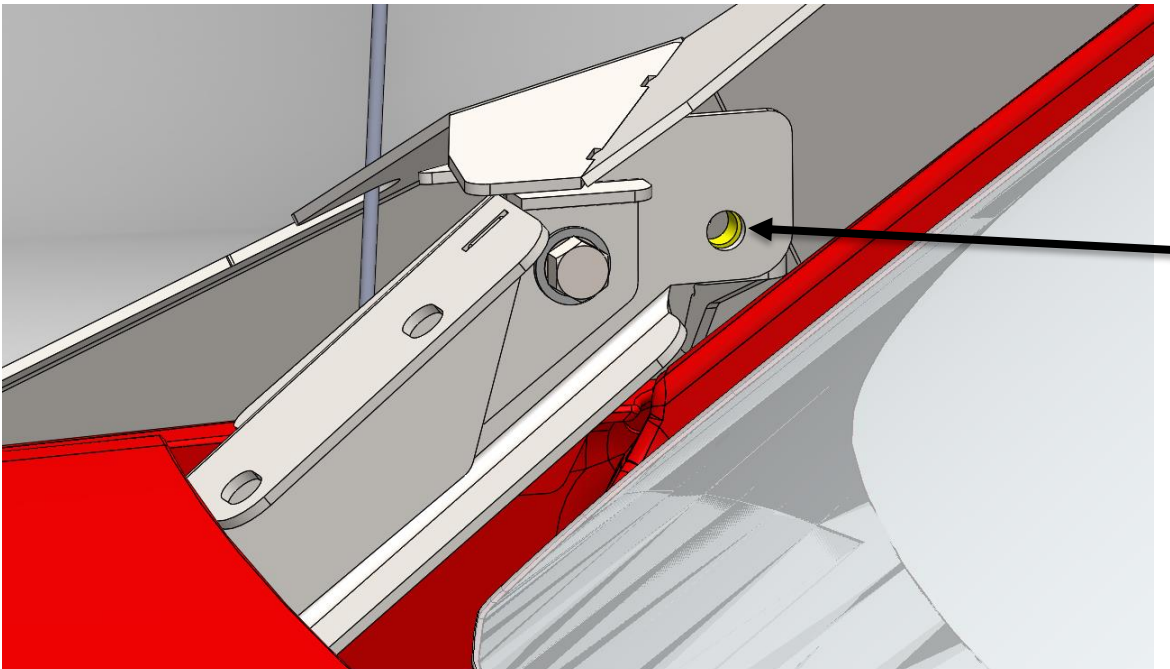

Fig 12
- a. With a friend on the other arm, lift the upper ViCowl assembly up over the hood and behind the radio antenna and slowly lower the arms into position. The arm mounting bracket rest to the outside of the lower hinge and lined up with the rear bolt hole as shown in **Fig 12**.
- b. Loosely install the $\frac{3}{8}$ "-16 hex bolt, zinc lock washer, and zinc flat washer through the lower hinge bracket and into the arm securing the ViCowl from falling lower on the vehicle as indicated in Fig 12 with the black arrow.